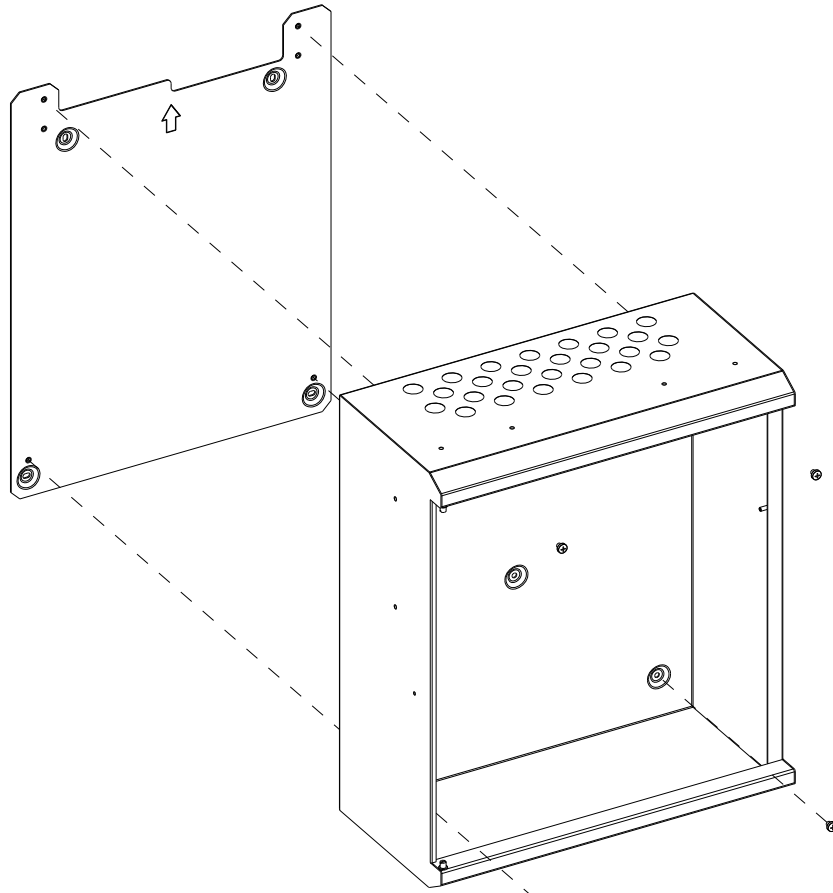
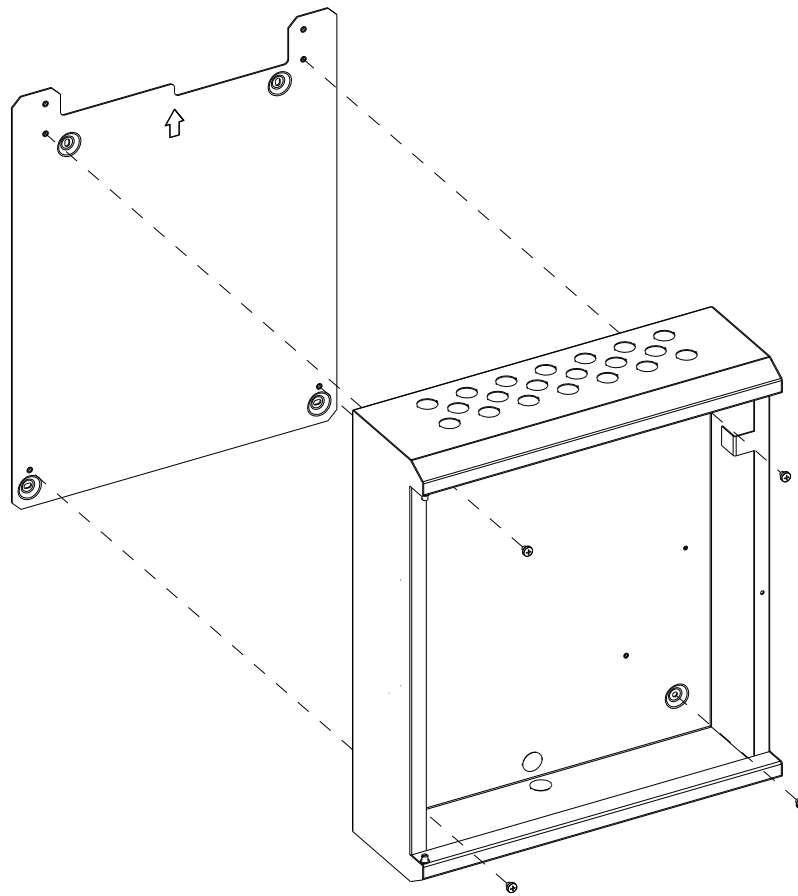

Fig. 4: Fitting the FC702D or FC718/708 panel housing to the deep cover mounting plate - front view
Fig. 6: Fitting the FC702S panel housing to the shallow cover mounting plate - front view
- Hang the panel on the loose screws and screw the bottom two bolts. Refer to Fig. 4 or Fig. 6.